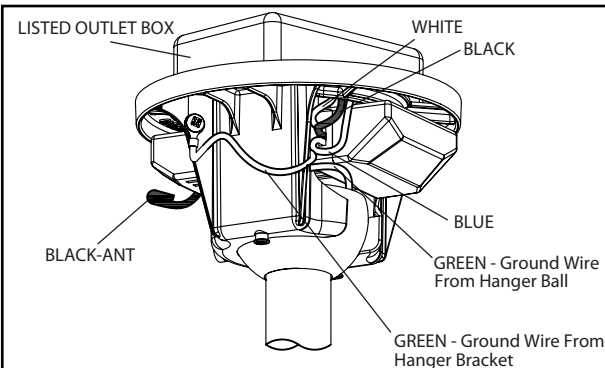

Figure 6
- ☐ 6. Cut off excess lead wire approximately 6 to 9 inches above top of the top of the downrod. Strip insulation off 1/2-inch from the end of each lead wire (Figure 6).
- ☐ 5. After connections have been made, turn leads upward and carefully push leads into the outlet box, with the white and green leads to one side of the box and the black leads towards the other side. The wires should be spread apart with the grounded conductor and the equipment-grounding conductor on one side of the outlet box and the ungrounded conductor on the other side of the outlet box (Figure 6).
- ☐ 6. Remove one of the three screws in the motor housing. Slightly loosen the remaining two screws. Assemble the light plate lower to the motor housing using the two key slots. Replace the third screw and securely tighten all three screws (Figure 6).